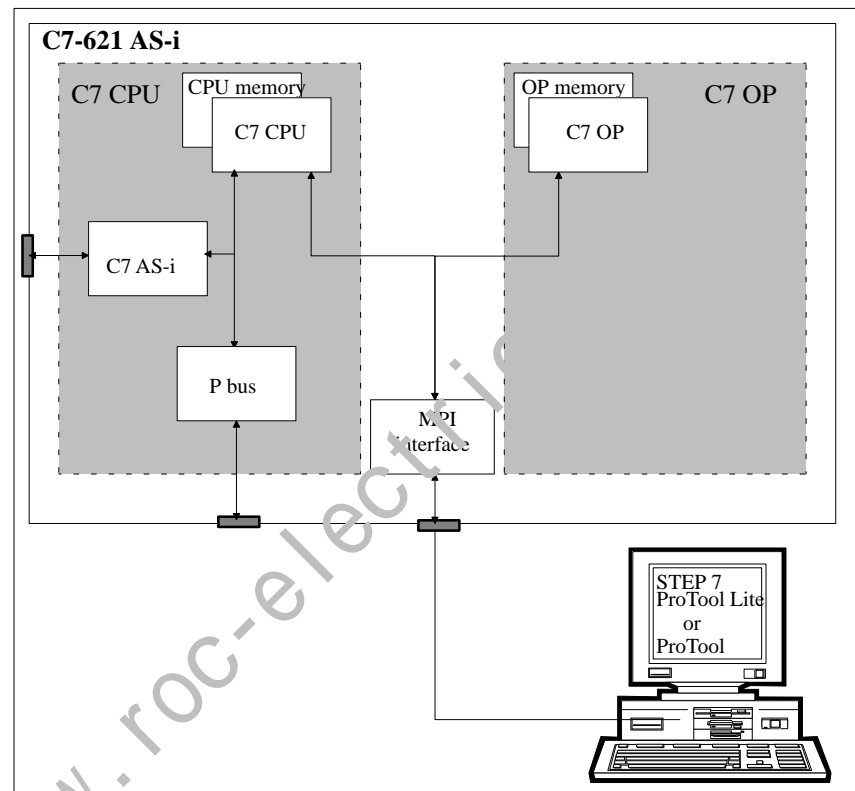

Figure 1-2 Components of the C7-621 AS-i
- An AS-i interface (AS-i) for connecting sensors and actuators (with the C7-621 AS-i version, see Figure 1-2)
The individual components integrated in the SIMATIC C7 control system correspond to the components that can also be used in modular configurations consisting of an S7-300 CPU, OP etc. The I/O expansion via the P bus interface (IM 621) allows the connection of a maximum of 4 SIMATIC S7-300 modules. The AS-i interface allows the connection of sensors and actuators to the C7-621 AS-i (Figure 1-2).